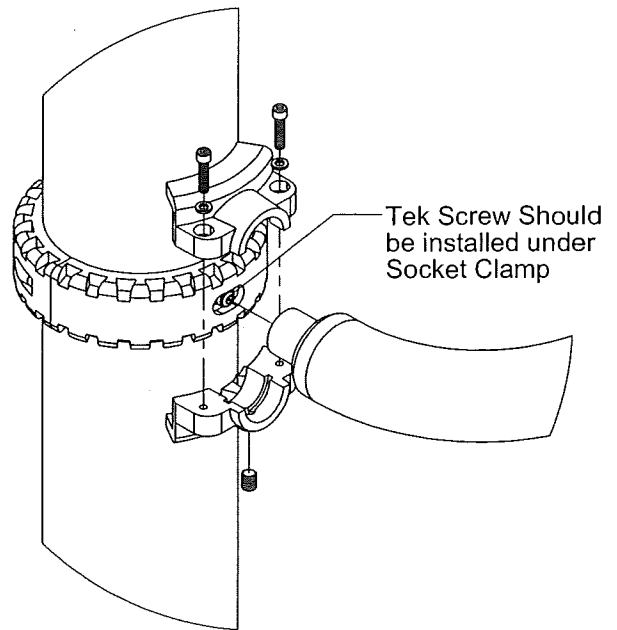

FIGURE 4
- (D) **Important:** On overhead event's the collars should be oriented so that the Socket Clamps or Mounting Blocks are installed over the Tek Screw. (See Figure 4)